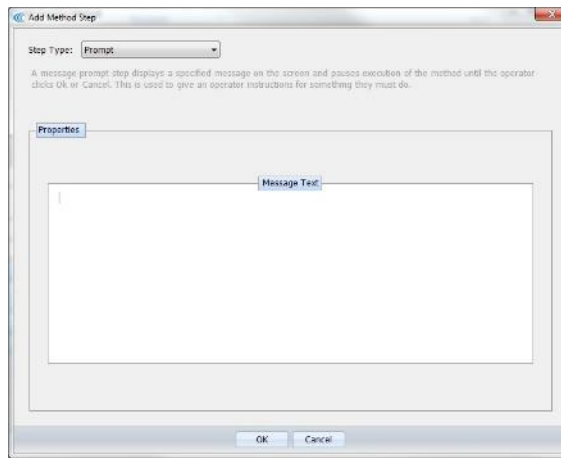

Figure 4.5 Add a Prompt Step
- 5.1.3 Choosing a *Prompt* step displays a specified message on the screen and pauses execution of the method until the operator clicks OK or Cancel. See Figure 4.5.